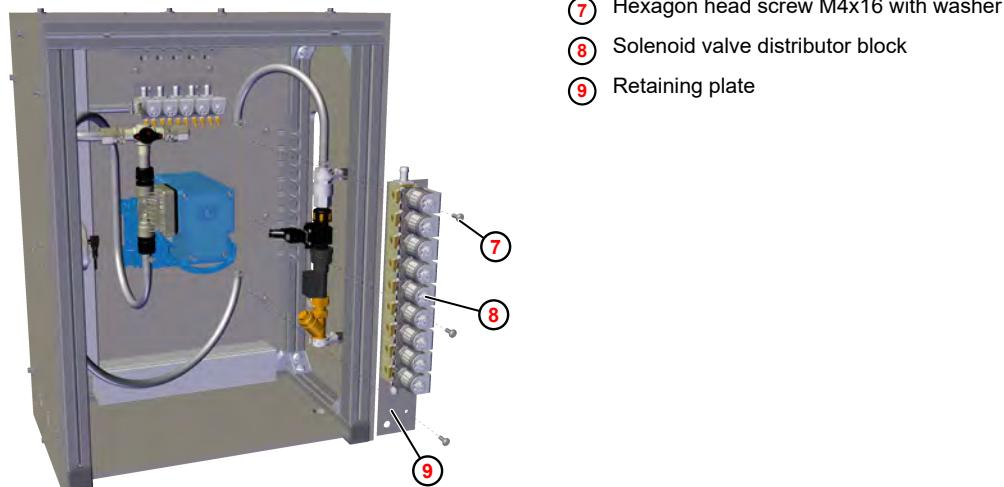

Fig. 14: Removing the solenoid valve distributor block
9. ➤ Unlock the retaining clamp ⑪ on product valve P9 ⑩ and remove the grommet connection ⑫ .
10. ➤ Install the extension block with three solenoid valves on product valve P9 using a coupling piece ⑬ .
11. ➤ Mount the grommet connection ⑫ on product valve P12 ⑭ .
13. ➤ Place the extended valve block on the support plate ( Fig. 14 , ⑨ ) and tighten it in place with five mounting nuts.